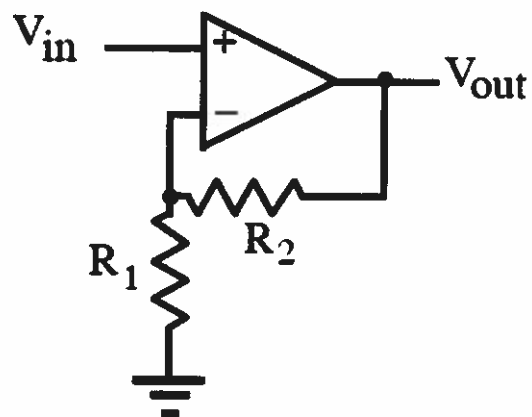

Figure 3. Schematic of Non-Inverting Op-Amp
1. Construct the circuit shown in Figure 3